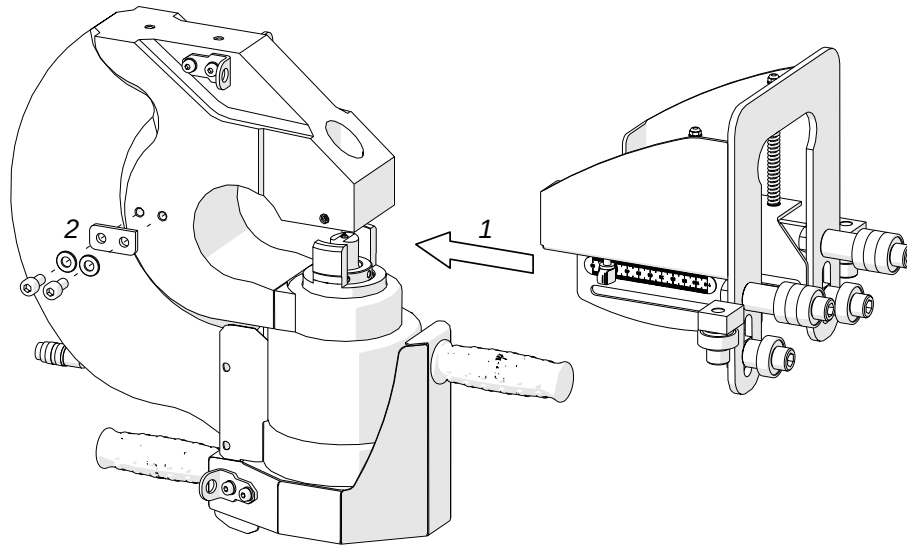

Fig. 18. Mounting the guide on the machine
Dismount the depth stop from the machine using the 6 mm hex wrench and position the machine upside down. Next, mount the guide (1, Fig. 18) by lightly tightening the depth stop screws and washers and two additional special washers (2).